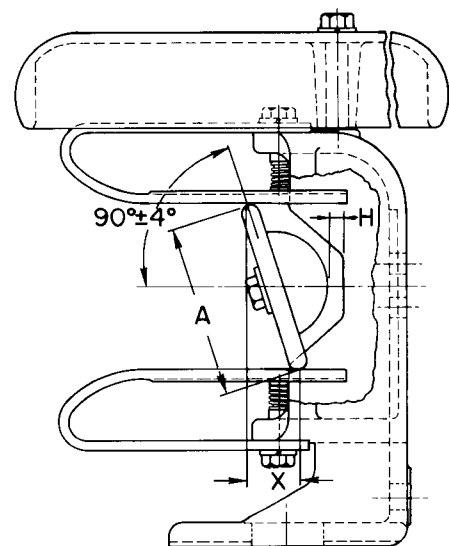

Fig. 4 End view showing blade contact angle
The blade contacts can be at a slight angle in the closed position, see Fig. 4. An allowable contact angle of 4 degrees permits an (X) dimension of  $1/16''$  for each 1" of contact width. Example: If the contact width (A) is 3", then dimension (X) can be as much as  $3/16''$  and still be within the plus or minus 4 degree tolerance.
Fig. 4 shows the top of the blade contact leaning to the left. It is also permissible for the top of the blade contact to lean to the right as long as the 4 degree angle is not exceeded. It is common to have both situations on one three-pole switch. In fact, after all three poles have been adjusted in the open position and then closed, it may be found that the top of the blade contact on one pole may be to the right of vertical, another to the left of vertical and the other vertical or nearly vertical. This is due to many variables and tolerances plus the free play or clearance in the pin connections of all the switches and control parts.
Due to varying friction and deflection, the distance between the blade and its stop (dimension H in Fig. 4), with the switch fully closed, may vary from 0" to 1". Insulator stacks can be adjusted to achieve this. It is not usually possible to get this dimension to be equal on all poles of a three-pole switch.